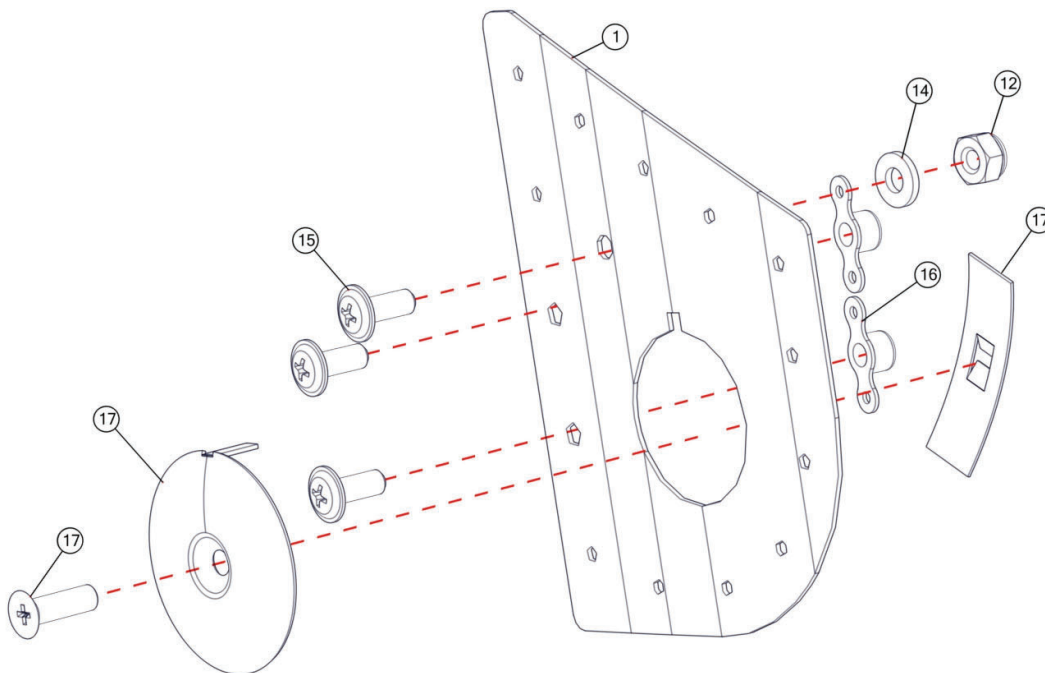

FIGURE 4
NOTE: To verify revision D or later has been accomplished, remove inspection cover (Figure 4, item 11 of this service letter) to visually verify if 1008671 internal doubler has been installed.
13. Plug side not using strut fitting as shown in figure 4